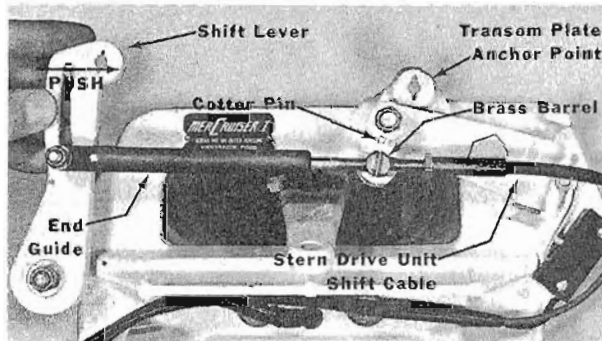

Figure 1. Shifting into Forward Gear
- a. Move shift lever to right (when viewing lever from inside boat) as far as it will go. (Figure 1) This shifts stern drive unit into forward gear. While shifting, turn propeller shaft counterclockwise until shaft stops, to insure full clutch engagement.
- a. Move shift lever to right (when viewing lever from inside boat) as far as it will go. (Figure 1) This shifts stern drive unit into forward gear. While shifting, turn propeller shaft counterclockwise until shaft stops (to insure full clutch engagement).